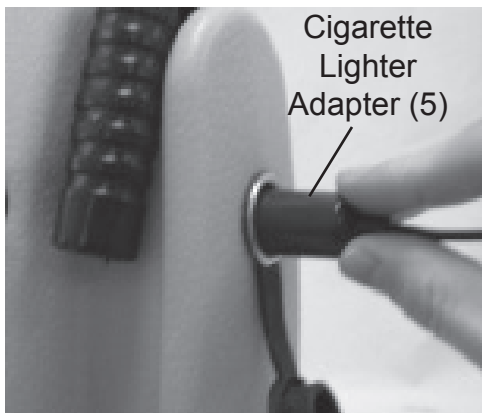

Figure 3
- Take out your 12 VDC Cigarette Lighter Adapter (6). The adapter has a cigarette lighter plug in one end of the cord, and a round plug on the other end. Plug the round plug into the Recharging Receptacle (See **Figure 3**). Plug the cigarette plug into the vehicle or boat cigarette lighter receptacle.